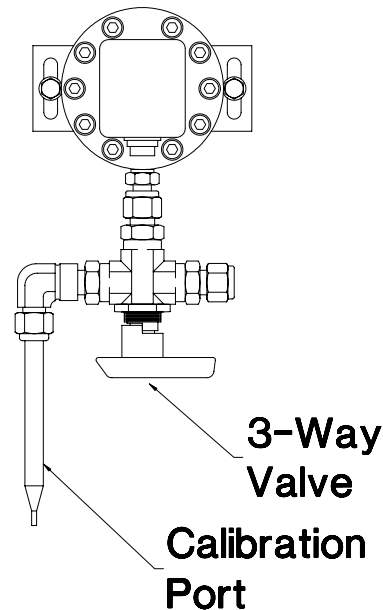

Figure 11: Calibration Diagram
3. Using the 3-way valve (see Figure 11), open the "A" or "B" calibration port and bleed off any air until a good fluid flow is achieved. Then close the port and press the ENT Key to continue the calibration process.